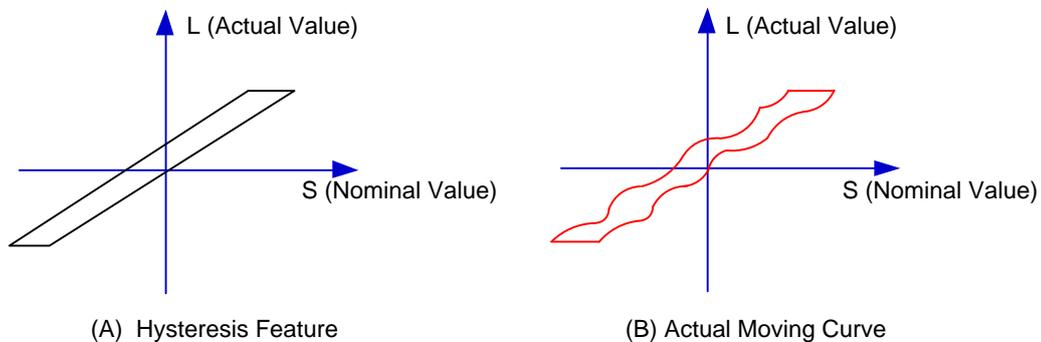

Fig. 3-58 Analysis of Backlash
Hysteresis feature is caused by forward and reverse clearance. Assume that driving shaft drives driven shaft in negative (CW) rotation, servo motor will be idling without moving worktable because of mechanical driving chain backlash, when the driving shaft suddenly begins CCW rotation (positive motion). After staying at a certain position for some time, the worktable will move backward with the driving shaft; when the direction of the driving shaft changes again, the situation is the same, which is called Hysteresis. If pitch error doesn't exist, under ideal condition, the moving curve of worktable is shown in Fig. 3-58 (A), in which the curve of horizontal section is during the idling of servo motor without worktable movement. The actual moving curve of worktable is shown in Fig. 3-58(B).